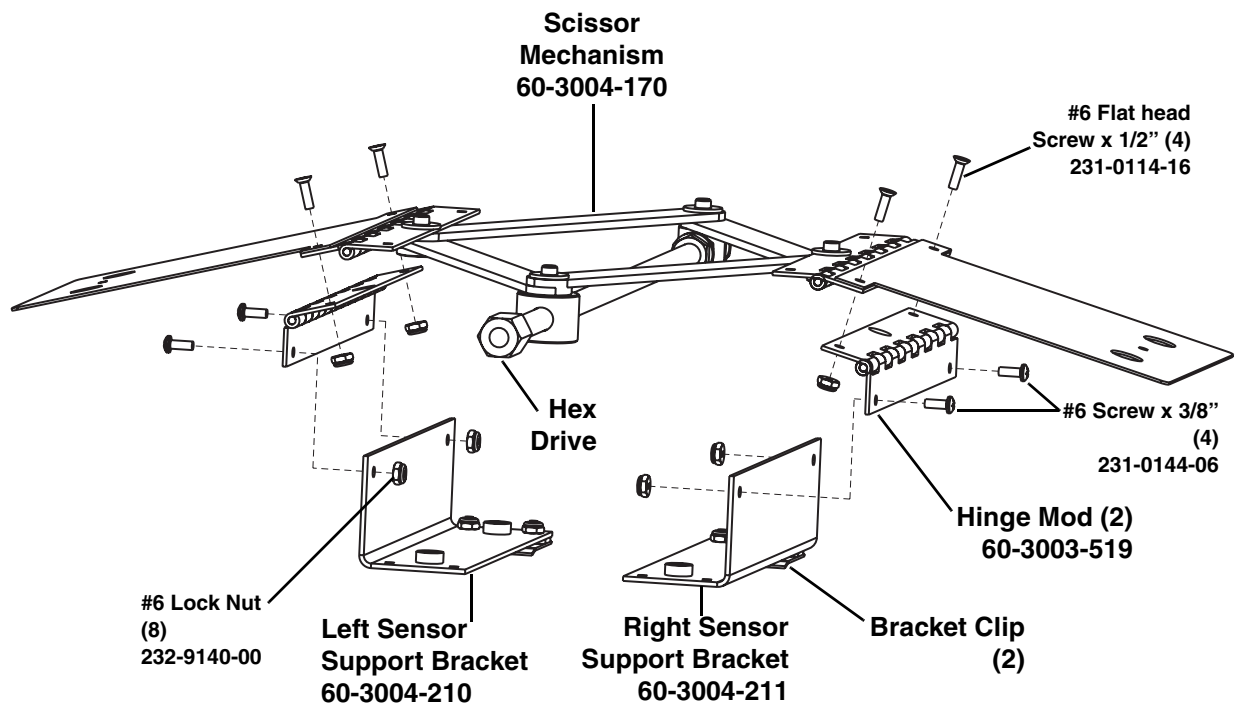

Figure 3-15 Assembling the Sensor Mount Kit
2. Attach the hinge and bracket assemblies to the scissor mechanism with the bracket clips facing opposite the hex drive, as shown in Figure 3-15.